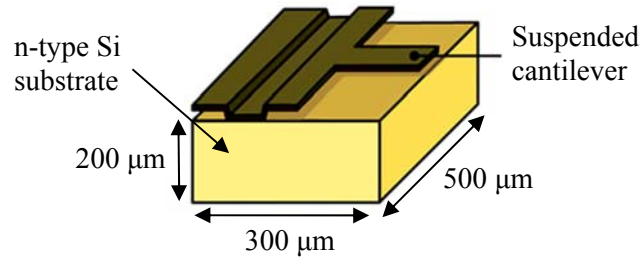

Figure Q5[a]
- Q5. [a] **Figure Q5[a] shows a suspended cantilever structure on top of n-type Si substrate. The structure was constructed by surface micromachining. Describe the prior machining steps before this structure is produced.**